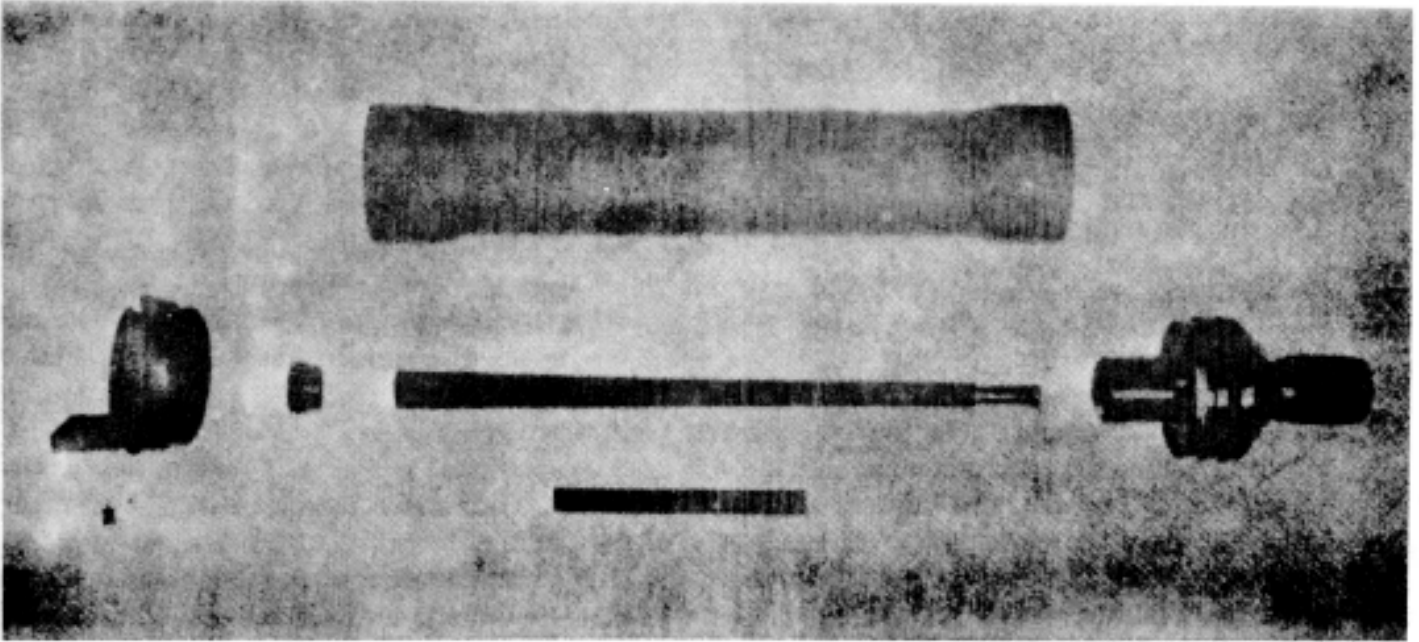

Figure 16.1. Major components of the 7.62mm subcaliber gun, M49A1.
b. The M49A1 subcaliber device (fig. 16.1) consists of a long, cylindrical sleeve, a barrel, a bushing with